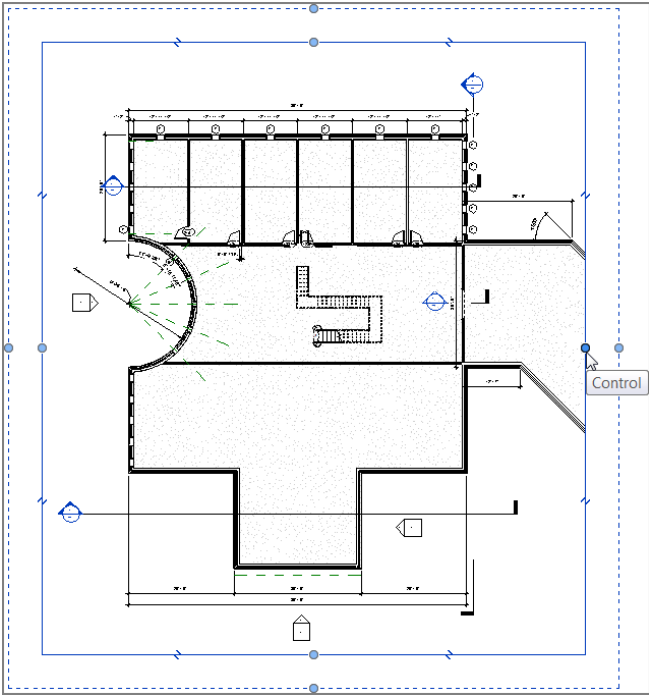

FIGURE 13.3: Dragging the crop region in the Level 1 West view
2. Select the crop region, as shown in Figure 13.3.
3. Drag the right side of the crop region to the position shown in Figure 13.3.